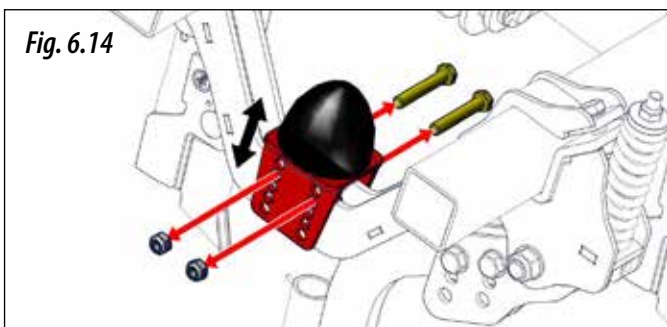

Fig. 6.14
- 2- Remove the bolts and nuts (Fig. 6.14).
- 2- Move the stop to the desired position (Fig. 6.14).